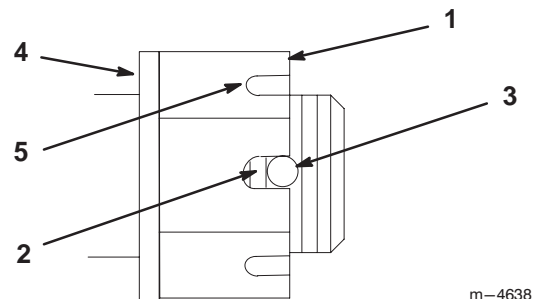

Figure 40
3. Torque slotted nut to 125 ft-lbs (169.5 N•m) (Fig. 40).
4. Check the distance from bottom of slot in nut to inside edge of hole. Two threads or less should be showing (Fig. 40).
5. If more than two threads are showing remove nut and install washer between hub and nut (Fig. 40).
6. Torque the slotted nut to 125 ft-lbs (169.5 N•m) (Fig. 40).
7. Tighten nut until the next set of slots line up with the hole in the shaft (Fig. 40).